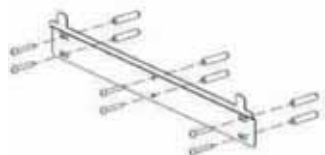

Figure 2
- e. Drill holes per the screws marked on the wall. Insert plastic mounting into the wall. Mount the supporting bracket on the wall and tighten the screws as shown in the installation diagram (Figure 2) below.